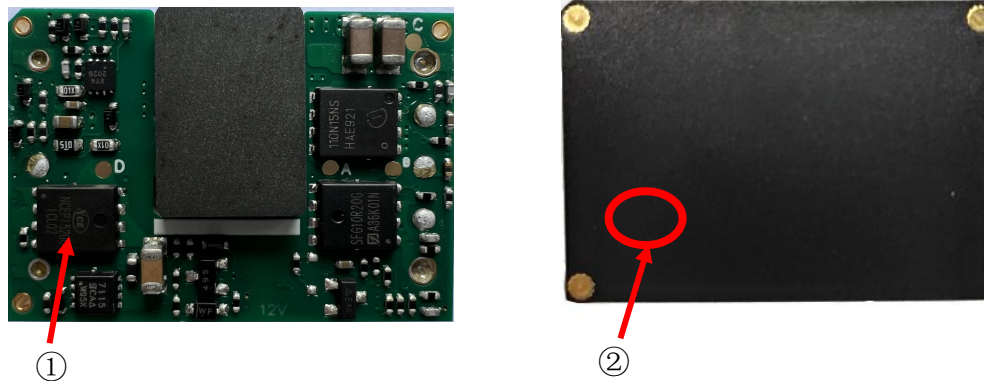

Fig. 6
The thermal element is installed on the top surface of the product and dissipates heat to the surrounding environment by conduction, convection and radiation, sufficient cooling conditions shall be provided to ensure reliable operation of the product. It can be verified that cooling conditions are met by measuring the temperature of thermal test point ①, thermal test point ② in Fig.6.